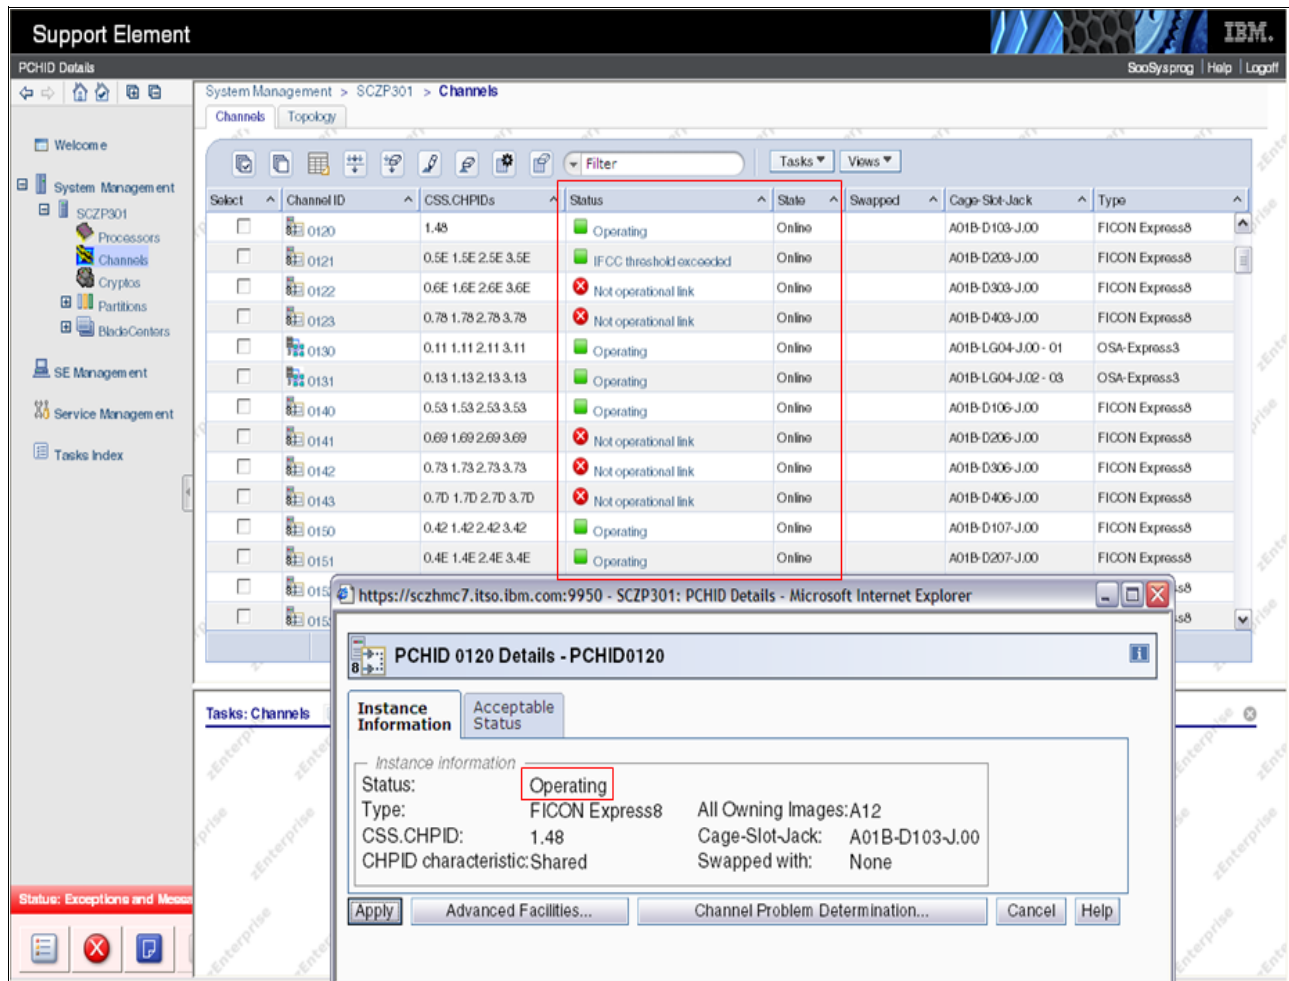

Figure E-8 PCHID 0120 Details panel
5. All of PCHIDs are displayed at the Work Pane, as shown at Figure E-8 on page 437. Double-click the **PCHID** you want to work with.
Figure E-8 on page 437 shows the PCHID Details panel for PCHID 0120. Note that there is a panel called Status in the field. The status reflects the current state of the PCHID or CHPID.